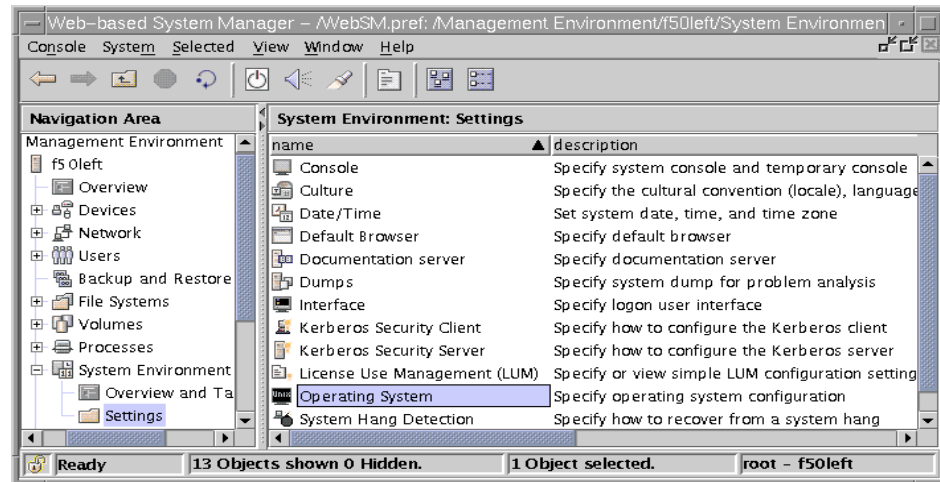

Figure 10-2 System Environment Settings panel
1. On the start panel of Web-based System Manager, double-click the System Environment icon on the right frame and then double-click the Settings icon. Then select the Operating System icon in the panel (Figure 10-2).